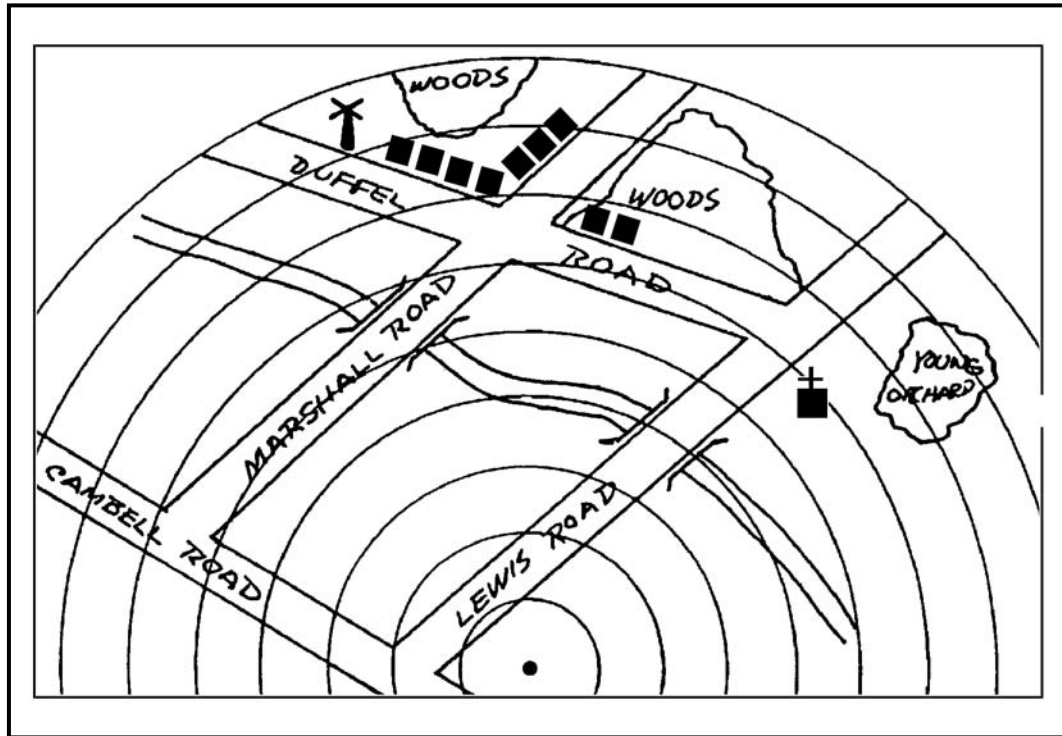

Figure D-2. Sketch of area on range card.
a. Draw a sector sketch of the entire sector. Make the sketch as large as possible, not to exceed the largest circle. For a large area covered by trees or woods, draw only the outline and label the area; for example, "woods" or "orchard" (Figure D-2).